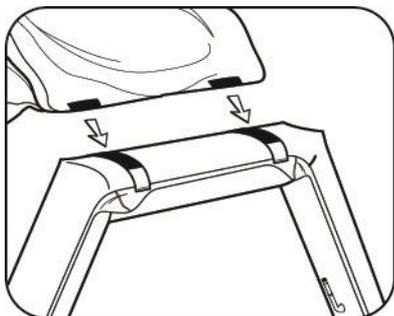

FIGURE 11
4. Locate two black Velcro® patches along the inside top of orange canopy fabric. Affix Velcro® to mating Velcro on top of yellow arch tube (See Figure 11).